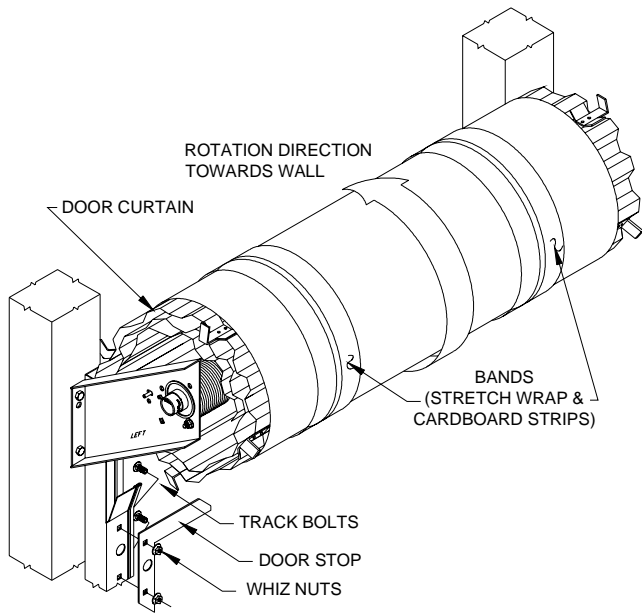
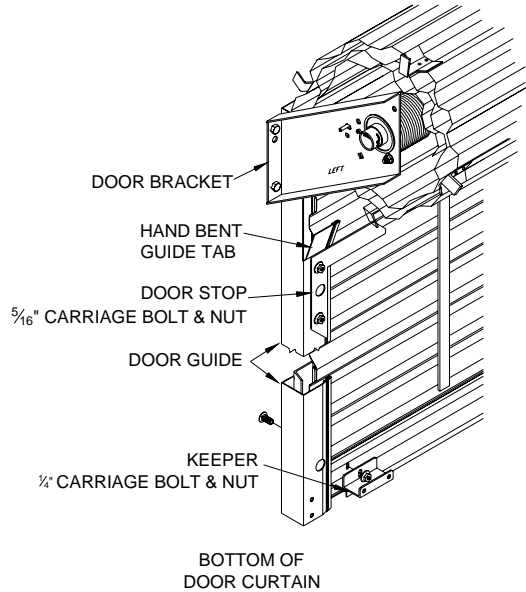

Figure 11.
Figure 12.
8.1 Install the track bolts, door stops and whiz nuts in each side guide as shown in Figure 11. Do not tighten at this time.
8.2 Bend the guide tabs out slightly (about 1/4"). (Figure 12) Standing inside the opening looking out, place your hand on top of the door and push away from you rotating the door nest. (Figure 11) For doors 6'-1" tall or shorter with one spring rotate the door nest 3 2/3 to 4 revolutions. For doors taller than 6'-1" rotate the door nest 2 complete revolutions. (Note: if the door is equipped with a chain hoist, it can be quite helpful in door pre-tensioning. Please reference section 10 Operators). Hanging on to the door bottom assembly, carefully cut the bands and feed the door curtain into the guides, moving the door stops aside to let the bottom bar move past. Pull the door bottom assembly down to about waist level.
8.3 Attach the two keepers to the bottom interior edge of the door with one (1) 1/4" carriage bolt and whiz nut in each keeper. See Figure 12.
8.4 Tighten door stops installed in paragraph 8.1 making certain track bolts are seated in guides. (Figure 12)